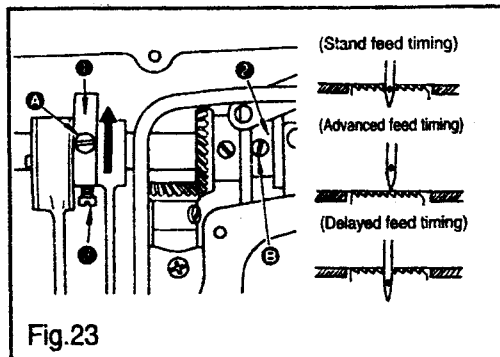

Fig.23
- 1) Loosen nut ② . As you turn presser spring regulator ① clockwise (in direction A), the presser foot pressure will be increased.
- 3) After adjustment, tighten nut ②
19. ADJUSTING THE FEED TIMING (Fig.23)